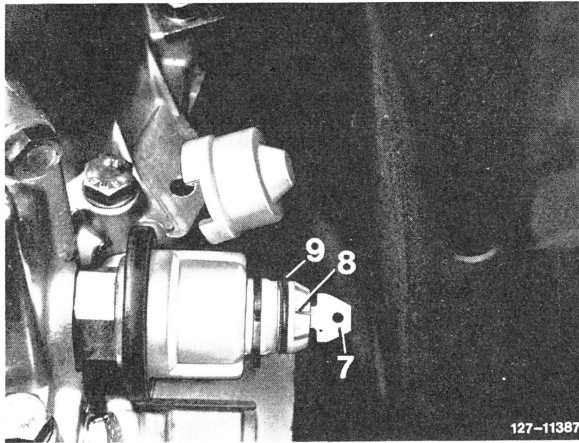

Fig. 3
Pull out locking plate (7) slightly (Fig. 3).